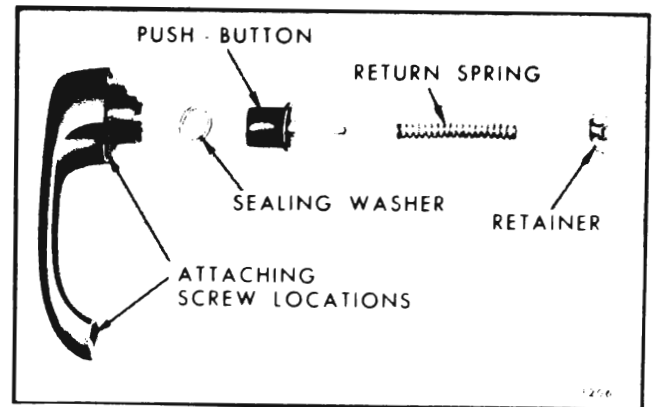
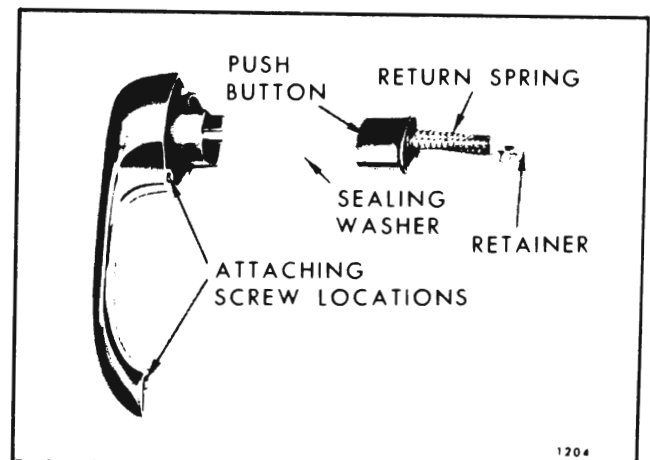

Fig. 6-10—Front Door Outside Handle
Fig. 6-11—Rear Door Outside Handle
2. Depress retainer slightly and rotate 1/4 turn in either direction. Remove retainer, spring, push button and shaft and sealing washer from handle (See Fig. 6-10 for front door handles and Fig. 6-11 for rear door handles).